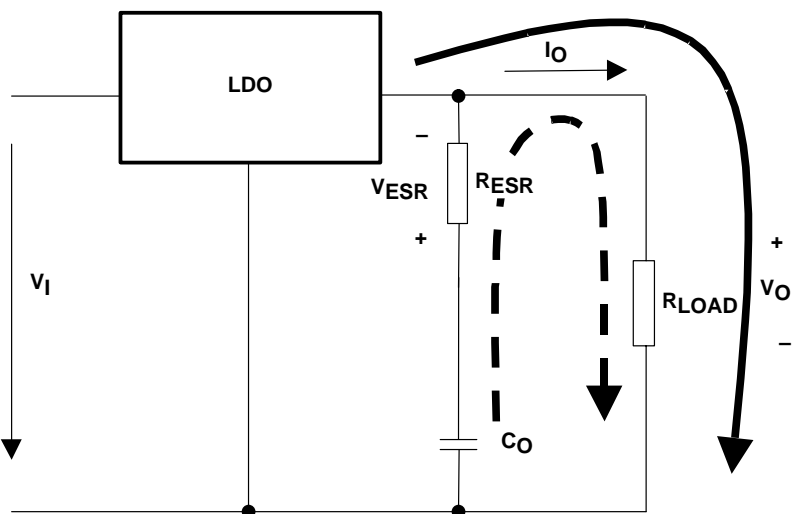
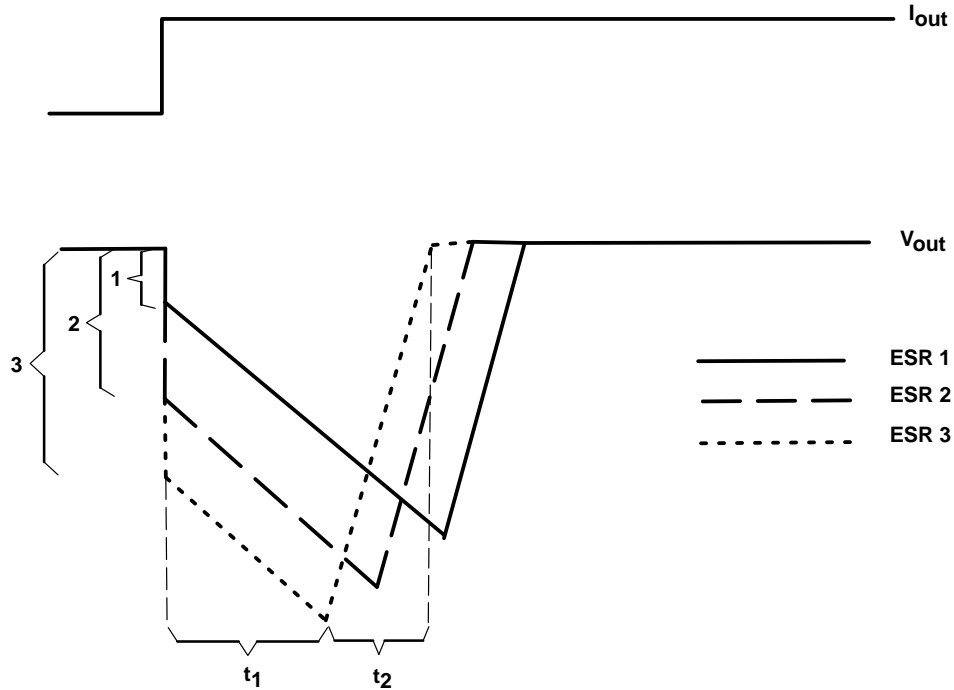

Figure 22. LDO Output Stage With Parasitic Resistances ESR
Figure 23. Correlation of Different ESRs and Their Influence to the Regulation of  $V_{\text{out}}$  at a Load Step From Low-to-High Output Current
Figure 22 shows the output capacitor and its parasitic impedances in a typical LDO output stage.
- The LDO is not able to supply the sudden current need due to its response time ( $t_1$  in Figure 23). Therefore, capacitor  $C_{out}$  provides the current for the new load condition (dashed arrow).  $C_{out}$  now acts like a battery with an internal resistance, ESR. Depending on the current demand at the output, a voltage drop will occur at  $R_{ESR}$ . This voltage is shown as  $V_{ESR}$  in Figure 22.
- When  $C_{out}$  is conducting current to the load, initial voltage at the load will be  $V_{out} = V_{C_{out}} - V_{ESR}$ . Due to the discharge of  $C_{out}$ , the output voltage  $V_{out}$  will drop continuously until the response time  $t_1$  of the LDO is reached and the LDO will resume supplying the load. From this point, the output voltage starts rising again until it reaches the regulated voltage. This period is shown as  $t_2$  in Figure 23.